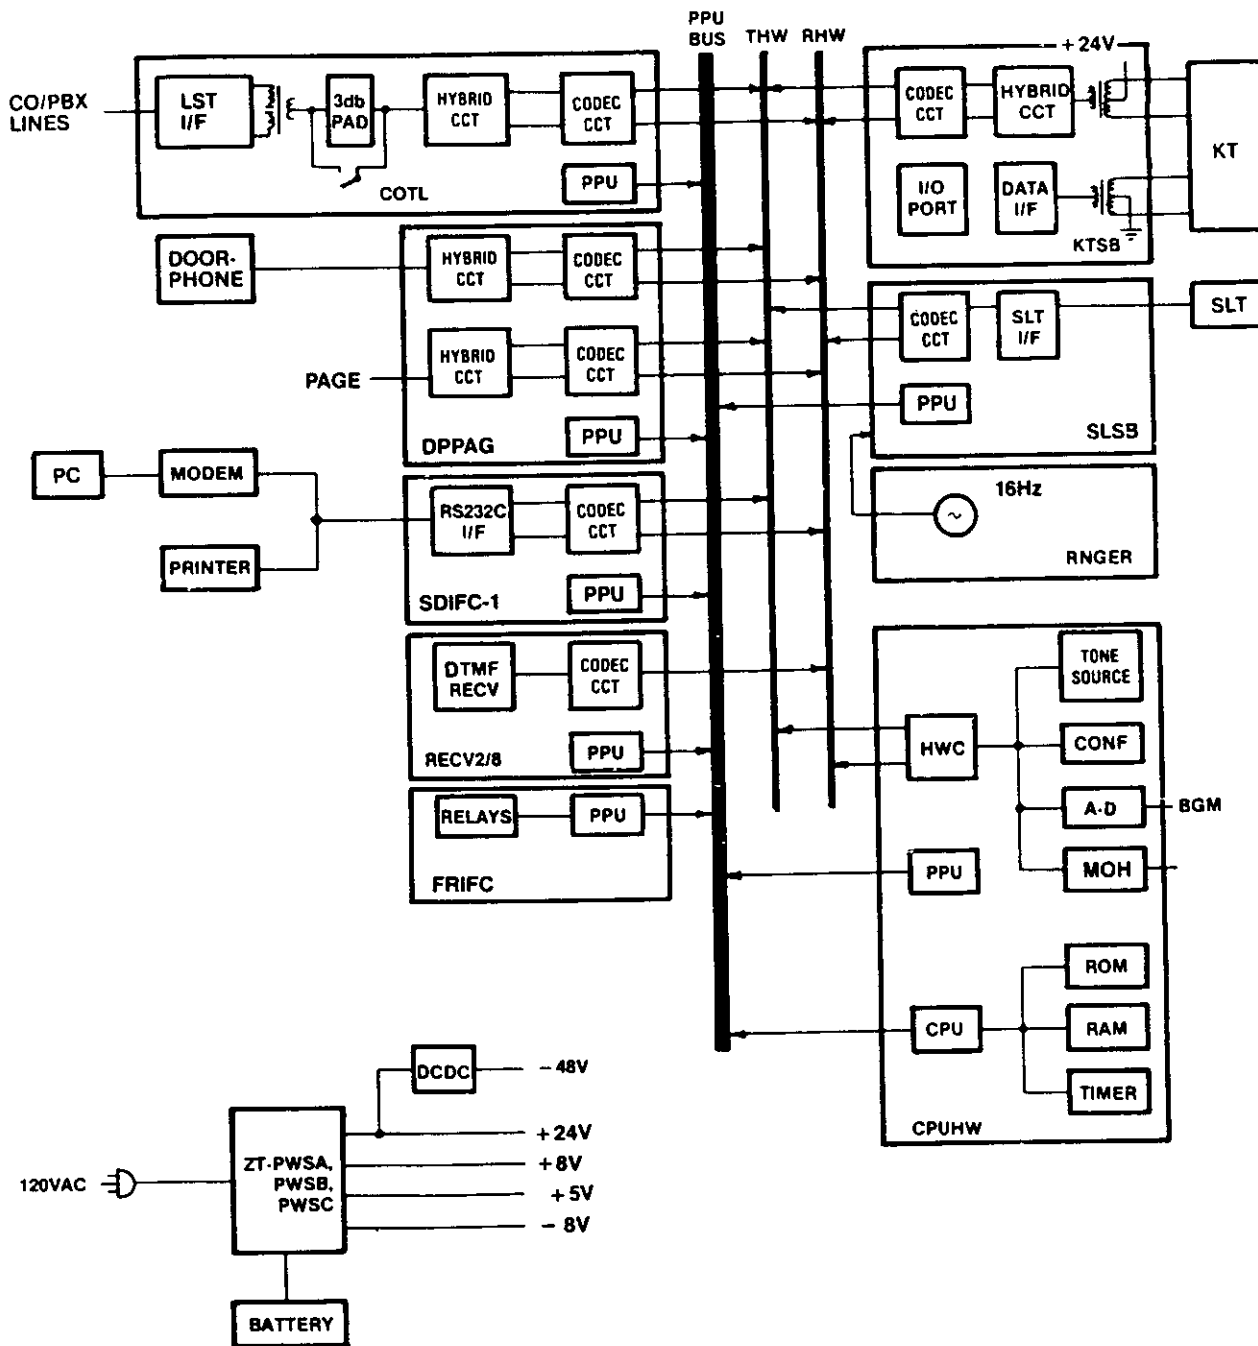

FIGURE 2-1 SYSTEM ARCHITECTURE
2.03 The system architecture utilizes the international standard PCM 32 with time division speech paths and digital control techniques to simplify system installation. System components and expansion are modular. Figure 2-1 illustrates system architecture.